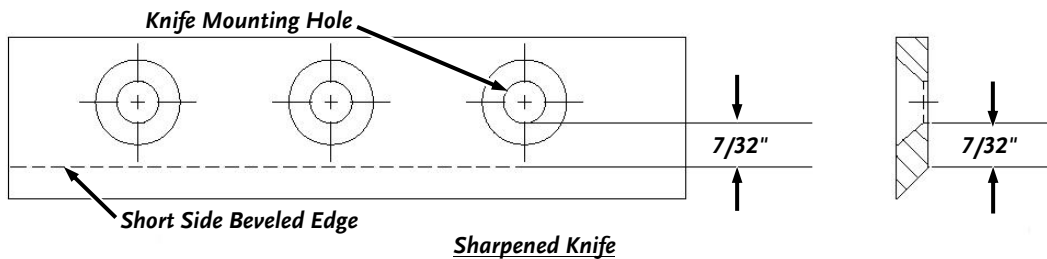

Figure 38
- Once this measurement is below $7/32$ " (**Figure 38**), or if you are unable to remove dents or gouges with these guidelines, replace the Knife.